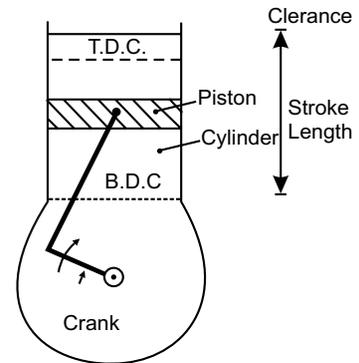

Fig. 8.1
- (b) **Stroke length:** The piston moves through the cylinder due to rotation of the crank. Its extreme positions are known as top dead centre (TDC) and bottom dead centre (BDC) respectively as shown in figure 8.1. The distance between these two extreme positions is known as stroke length or simply stroke.